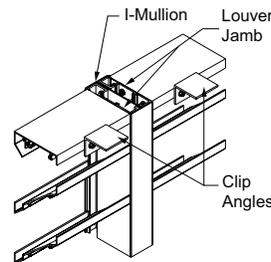

Fig. 3.2 Visible Mullion
3. For visible mullions, install I-mullion on right hand jamb (as viewed from the exterior). See fig. 3.2.